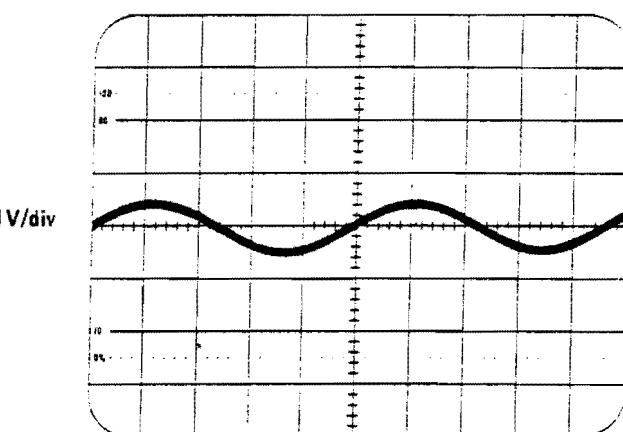

Fig. 2.2
13. The display should now have a height of 1 div (see fig. 2.2).